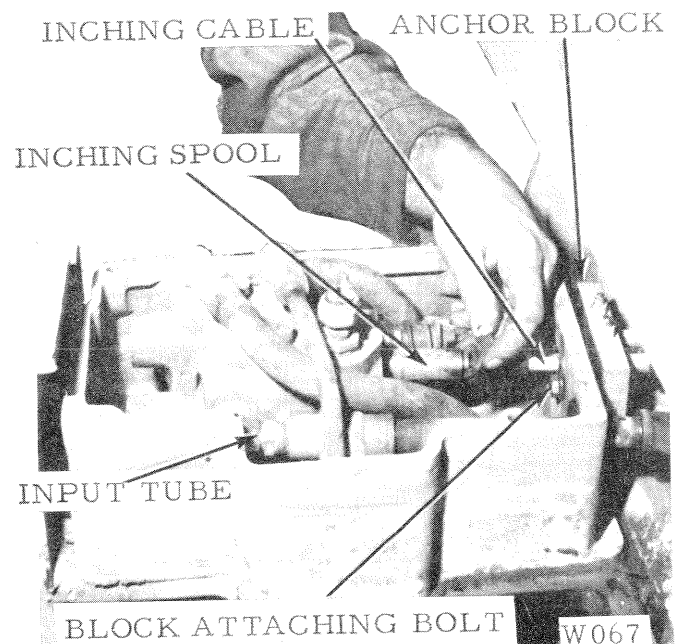

Figure 19
2. Unscrew the inlet pipe until it is free of the valve body and the capscrews securing the cable anchor block, (if preferable the cable set screws may be loosened instead). Loosen the jam nuts locking the cable position in the spools. Disconnect the cable from the inching spool, by turning the spool with short open end wrench. Fig. 19. Disconnect the cable from the selector spool, the same way.
3. Loosen the jam nuts locking the cables to the inching spool and selector spool. Disconnect the cable from the inching spool, by turning the valve, using a short open end wrench. Fig. 19. Separate the cable from the selector spool in the same manner. Pull the cables out of the housing.
4. If the winch is equipped with a mechanical brake, unscrew the inlet pipe. Fig. 19.